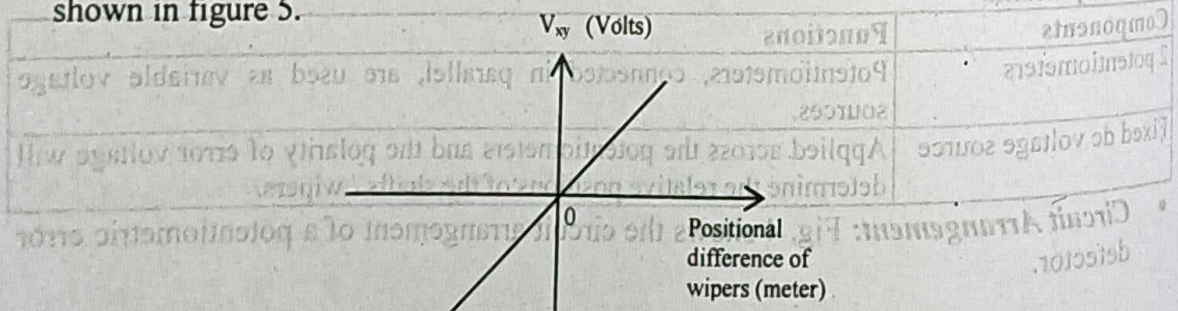

Fig: 5 Transfer characteristic of a potentiometric error detector
- **Transfer Characteristics:** Transfer characteristic of a potentiometric error detector is shown in figure 5.